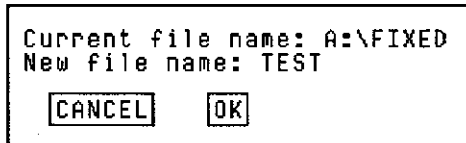

Figure 3-19. Rename Window
2. Click on **<Rename>** to display the Rename window, Figure 3-19.